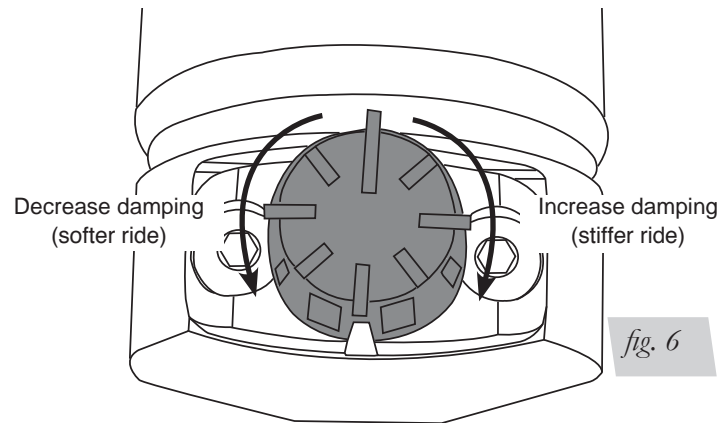

fig. 6
1. Some struts for this vehicle come with a nine-position damping dial for added adjustability (fig. 6). If not, proceed to 2.